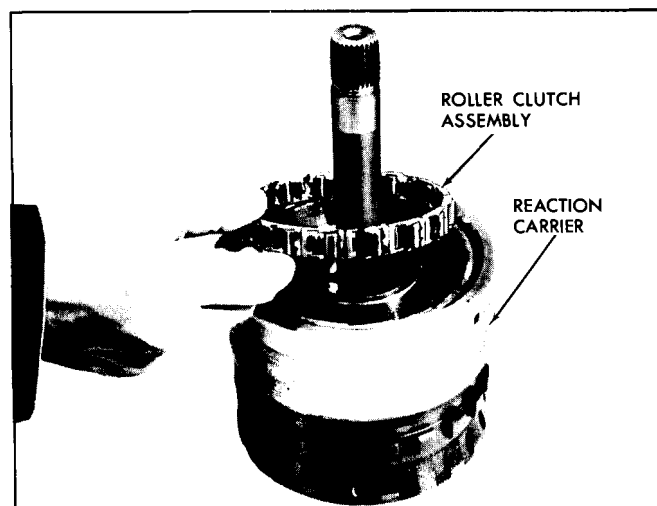

Fig. 7E-174 Installing Roller Clutch Assembly
18. Install center support-to-reaction carrier thrust washer into recess in center support. Retain with petrolatum (Fig. 7E-175).